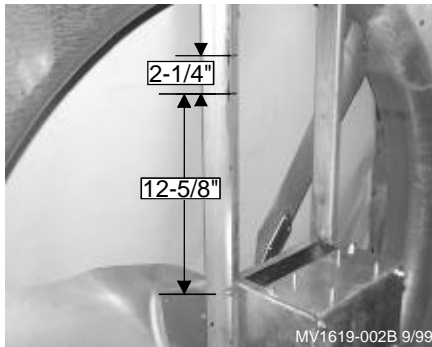

Figure 2. U-Motor Mounting Bracket
6. Mount the new U-Motor Mount Bracket, see **Figure 2**, to the posts with the carriage bolts and lock nuts provided. (Note: The top of the slots should line up with the holes to allow the bracket to move up to provide belt tension adjustment).